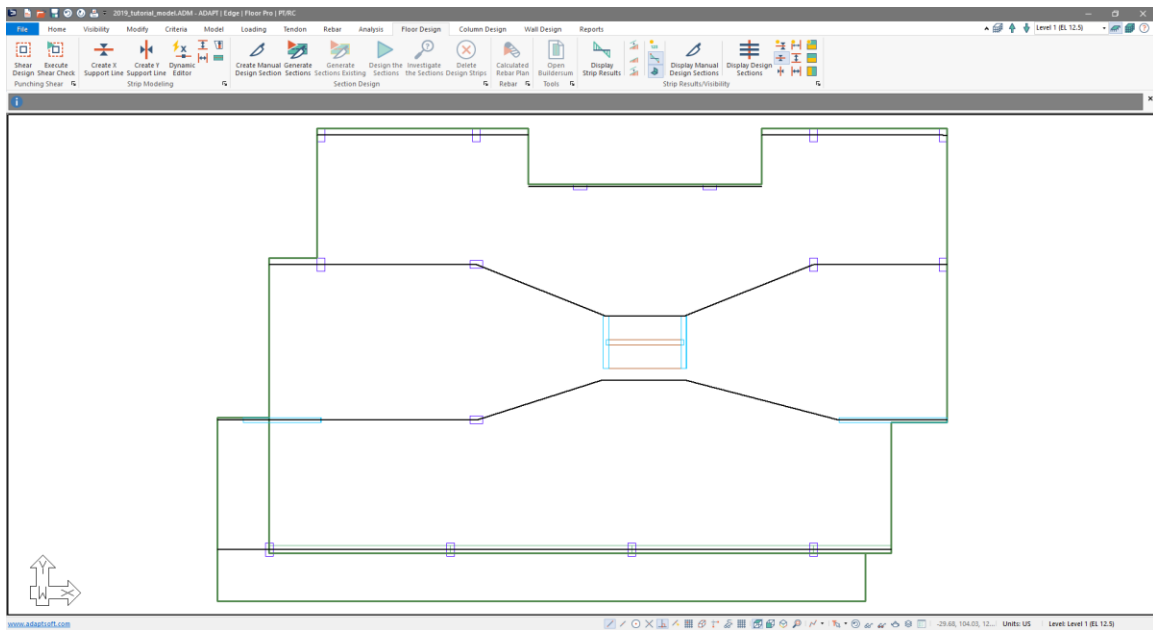

Figure 9-19
- Using the mouse select and move the points that coincide with the wall off the wall edge in the middle of the slab, similar to that shown in **FIGURE 9-19**.